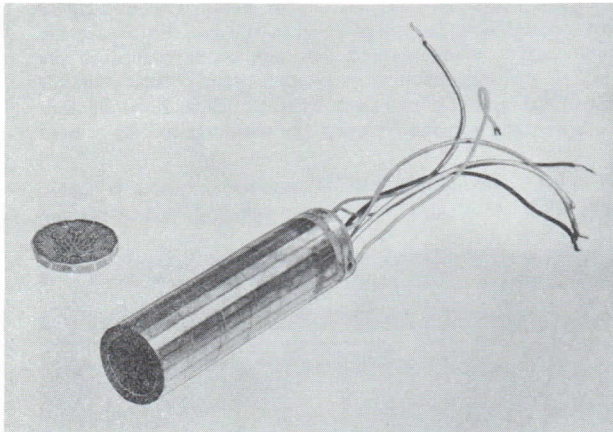

Fig. 4. Printed scanning coils for  $\frac{1}{2}$ -in. vidicon camera tube. The overall diameter is  $\frac{3}{4}$ in.
A number of printed coils for various sizes of vidicon camera tube have been made, two of which are shown in Figs. 4 and 5; and from measurements on these it is possible to assess the relative merits of printed and wire wound coils:
3. Very compact coil assemblies such as that shown in Fig. 4 can be made. This coil together with its focus coil is part of a television camera having an outside diameter of 0.9 in.